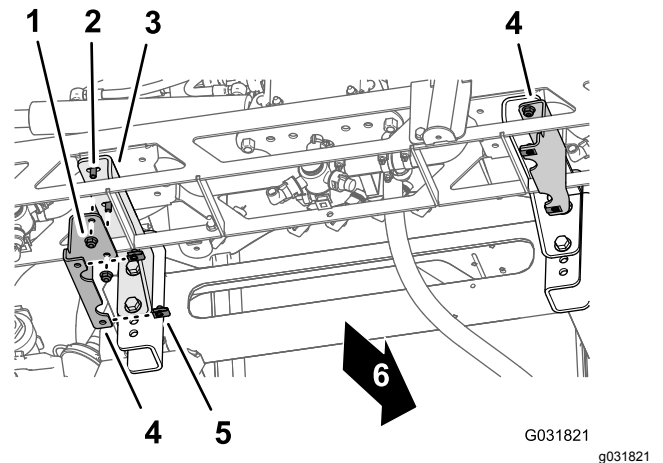

Figure 41
3. Remove the 2 flange locknuts (3/8 inch) that secure the left cover-support bracket to the left support bracket for the center boom section, and remove the cover-support bracket (Figure 41).
4. Thread the 2 flange locknuts (3/8 inch) on to the flange-head bolts (3/8 x 1 inch) of the left support bracket for the center boom section (Figure 41) and torque the bolt and nut to 37 to 45 N·m (27 to 33 ft·lb).
5. Repeat steps 3 and 4 for the cover-support bracket and support bracket for the center boom section at the right side of the center boom section (Figure 41).
6. Remove the clip nuts from the left and right cover-support brackets (Figure 41).